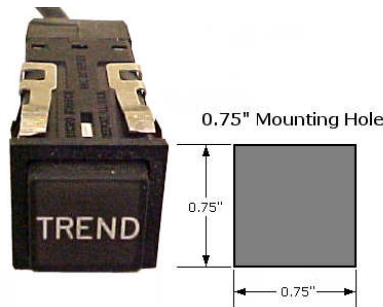

Figure 6: TREND Switch/Fault Lamp
- **Trend Switch / Fault Lamp** – The TREND switch / fault lamp (Figure 6) consists of a .75" x .75" square push-to-test combination lamp. The lamp is mounted on the console and is used to initiate a processor loop back test or initiate a manual trend sample. Fault indications are displayed to the operator through the on/off or flashing status of the lamp